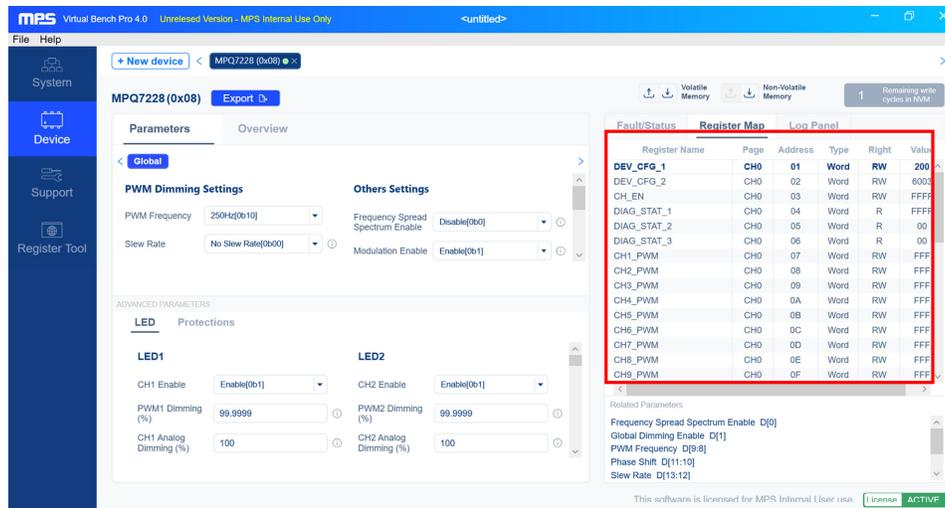

Figure 8: Register Map in Virtual Bench
- To use the enable (EN) function, apply a digital input to the EN2 pin. Set R16 to 100kΩ and remove R2. Then drive EN2 above 2.2V to turn the regulator on; drive EN2 below 0.8V to turn it off.
- I_{LED} is set by the external resistor, R10 (see Figure 8 on page 8). I_{LED} can be calculated with Equation (1):
- c. The register values — including the pulse-width modulation (PWM) dimming setting, protections, and LED current setting — can be adjusted via the GUI (see Figure 8). After writing to the register, double-check the register map to determine whether the register value matches the required value.